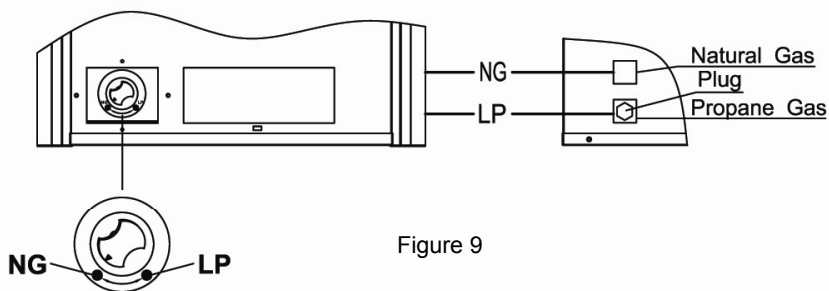

Figure 9
2. For NATURAL GAS, press in knob using a flat screwdriver with a blade the thickness of a quarter and turn knob clockwise until the  knob locks into the NG position (see figure 9). Fuel selection device must be locked into the NG position. Do not operate heater between locked positions!